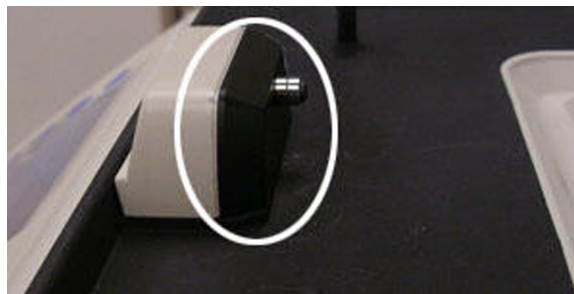

Figure 122. Optical module locking latch.
5. Reassemble the reaction module with the lid open by replacing the locking latch and securing it with the large screws. Figure 122 shows the locking latch in place.